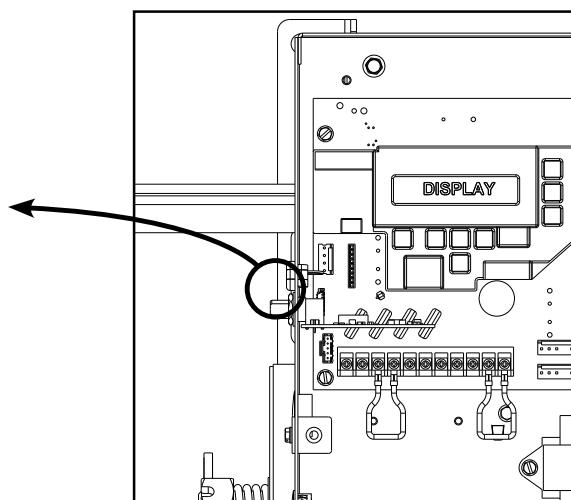

FIG. 8
*Installing external radio for remote operation. FIG. 8*